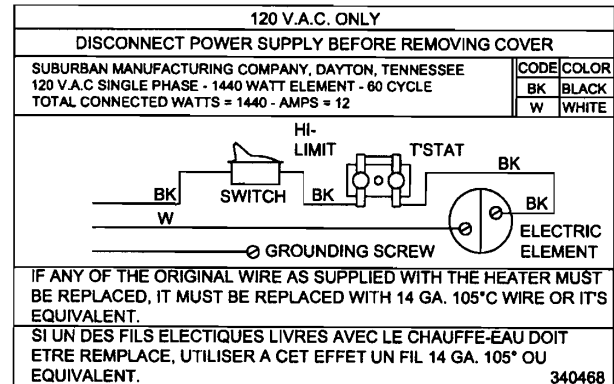

Figure 8
D. Check rating plate and wiring diagram (Figure 8) before proceeding. Install a fused safety switch or circuit breaker of adequate capacity between heater and electrical power source. Attach the black and white wires from the fused switch or breaker to corresponding colored wires in heater junction box. A green wire from a well grounded source must be attached to the green nut in the junction box.